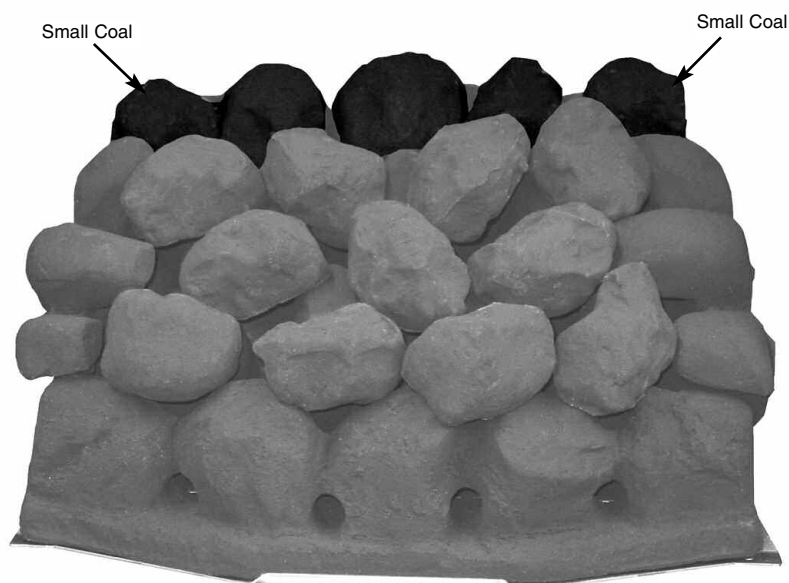

Fig. 22
8. Place the next three coals in the middle, on the back edge of the coals previously laid ensuring even gaps all round. Finally place the two small coals, one in each top corner. Make any adjustments necessary to achieve even gaps as this will help in giving a well balanced flame picture and an even glow (Fig. 22).